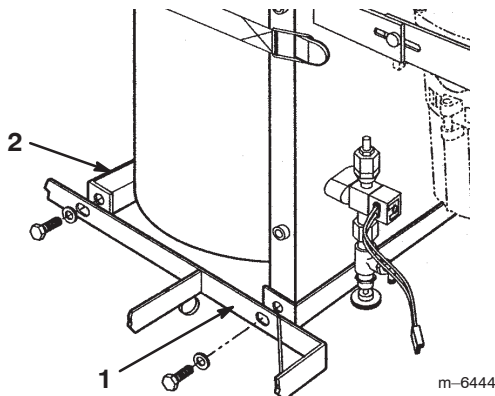

Figure 26
4. Mount the tank/compressor assembly to the right step frame using 2 bolts (3/8 x 1 inch) and flat washers (Fig. 26).